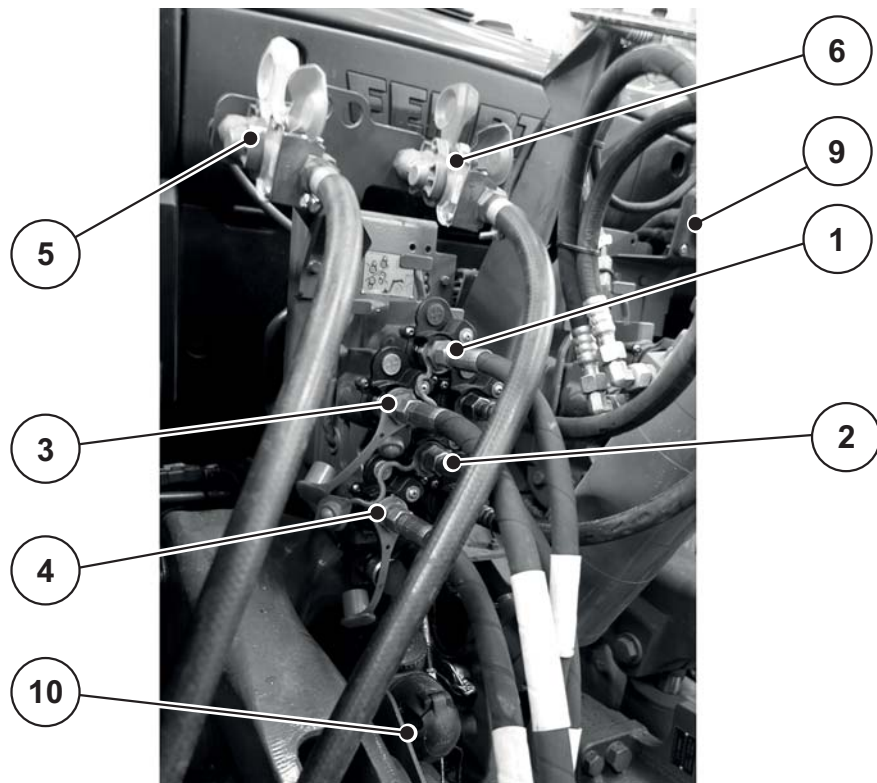

Figure 6.6: AXENT large area spreader connection order
- Observe the connecting sequence: Refer to figure 6.6.